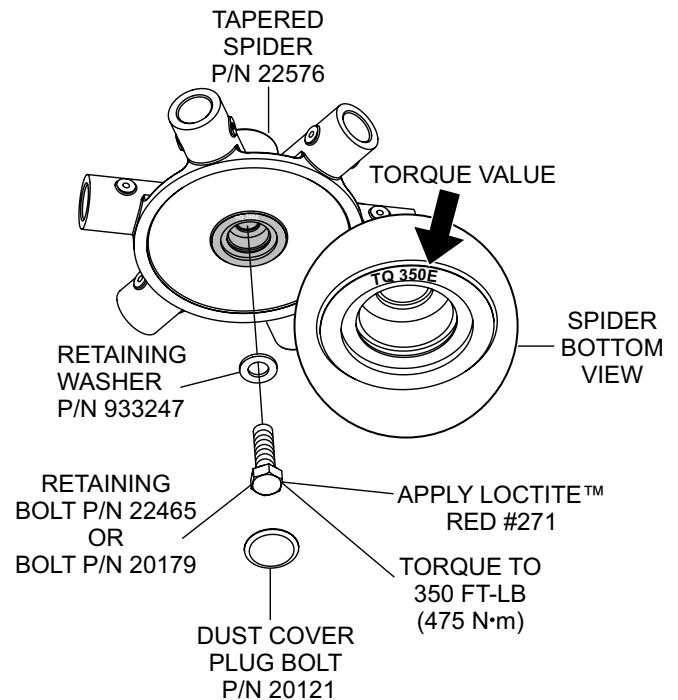

Figure 7. Tapered Spider
ALWAYS ensure that both the left and right spiders assemblies are configured the same, meaning key versus keyless. A **keyless** tapered spider (new style) will be torqued to 350 ft-lb (475 N·m) and will be marked on the backside of the spider as "TQ350E" (See Figure 7). A **keyed** tapered spider (old style) will be torqued to 130 ft-lb (176 N·m).
9. Apply Loctite™ 271 (RED) to the selected spider retaining bolt P/N 22465 or P/N 20179 (Figure 7). Also apply RED Loctite™ to the female threads on the hydraulic motor shaft.